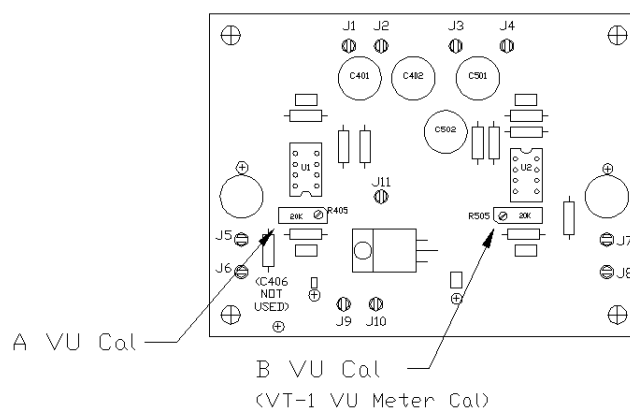

Fig. 5 VU Meter Amplifier PCB
5. Set the Meter Calibration trimmer potentiometer for 0 VU on the VT-2 meter(s). Be sure the meter is turned on. This control is a 25-turn pot so the adjustment is easy. A small screwdriver or alignment tool is necessary. The controls are located on the meter amplifier printed circuit board on the top of the chassis and they are the only trim pot(s) on the VT-1/VT-2. See Figure 5 on page 38.